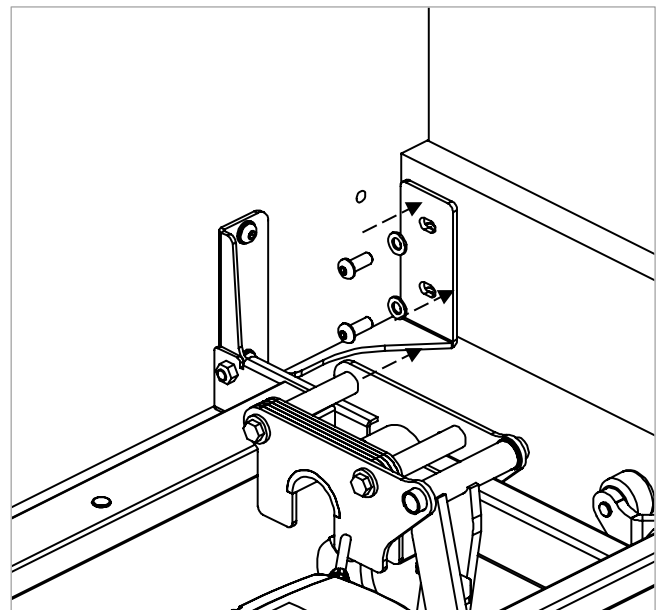

Figure 9.7
8. Fit each side panel to the side panel end brackets with the M6 x 20mm bolts and M6 washers as shown in Figure 9.7. Leave the bolts slightly loose.